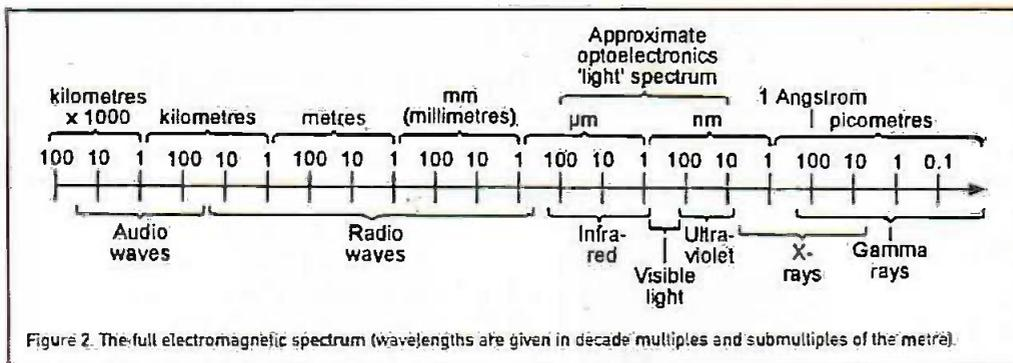

Figure 2. The full electromagnetic spectrum (wavelengths are given in decade multiples and submultiples of the metre).
part of the electromagnetic spectrum, plus most of its invisible infra-red (IR) and ultra-violet (UV) ranges, i.e., to the spectrum's 10nm to 100mm section. Figure 2 shows details of the full electromagnetic spectrum, and Figure 3 shows the so-called 'visible' part of the spectrum; all wavelengths are marked in decade multiples and submultiples of the metre.